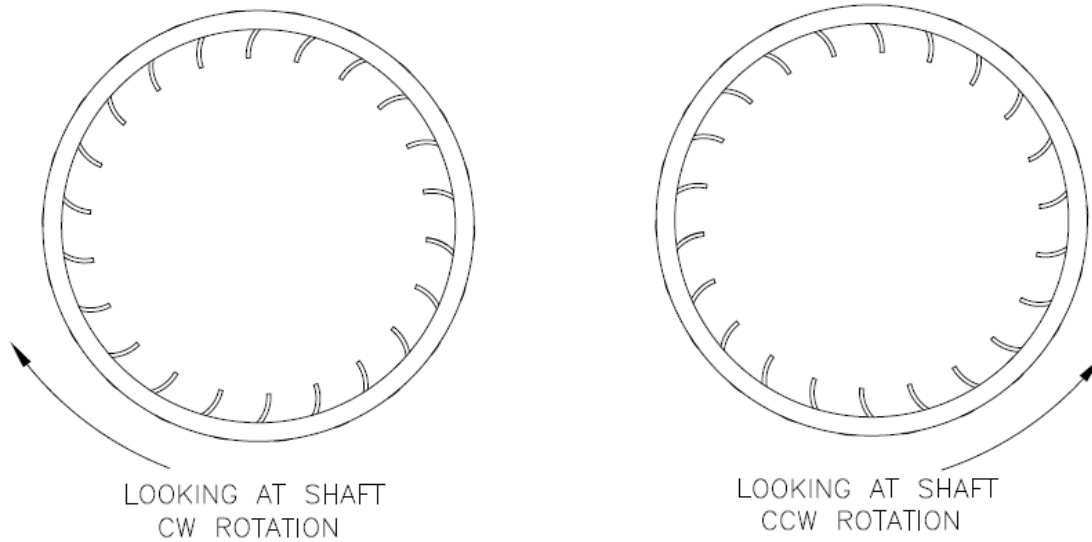

FIG. 2
9.5 The 16-2527 Blower Wheel rotation must match the rotation of the shaft. See FIG. 2 Push the Blower Wheel onto the shaft until you have the same spacing as the old wheel. Fit the motor and wheel into the Lower Housing (17-2642). Adjust the position of the wheel on the shaft so it does not touch the housing on either side. Adjust the spacing of the wheel on the shaft as necessary. When the proper spacing is achieved attach the 916-901 Clip on the Blower Wheel.